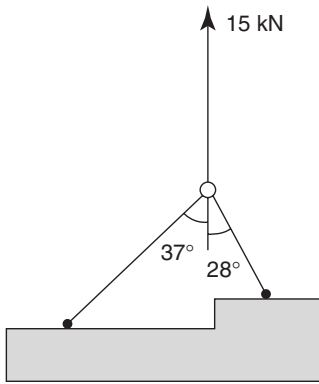

Figure 3.22
2. A two-legged sling and hoist chain used for lifting machine parts is shown in Figure 3.22. Determine the forces in each leg of the sling if parts exerting a downward force of 15 kN are lifted. [9.96 kN, 7.77 kN]